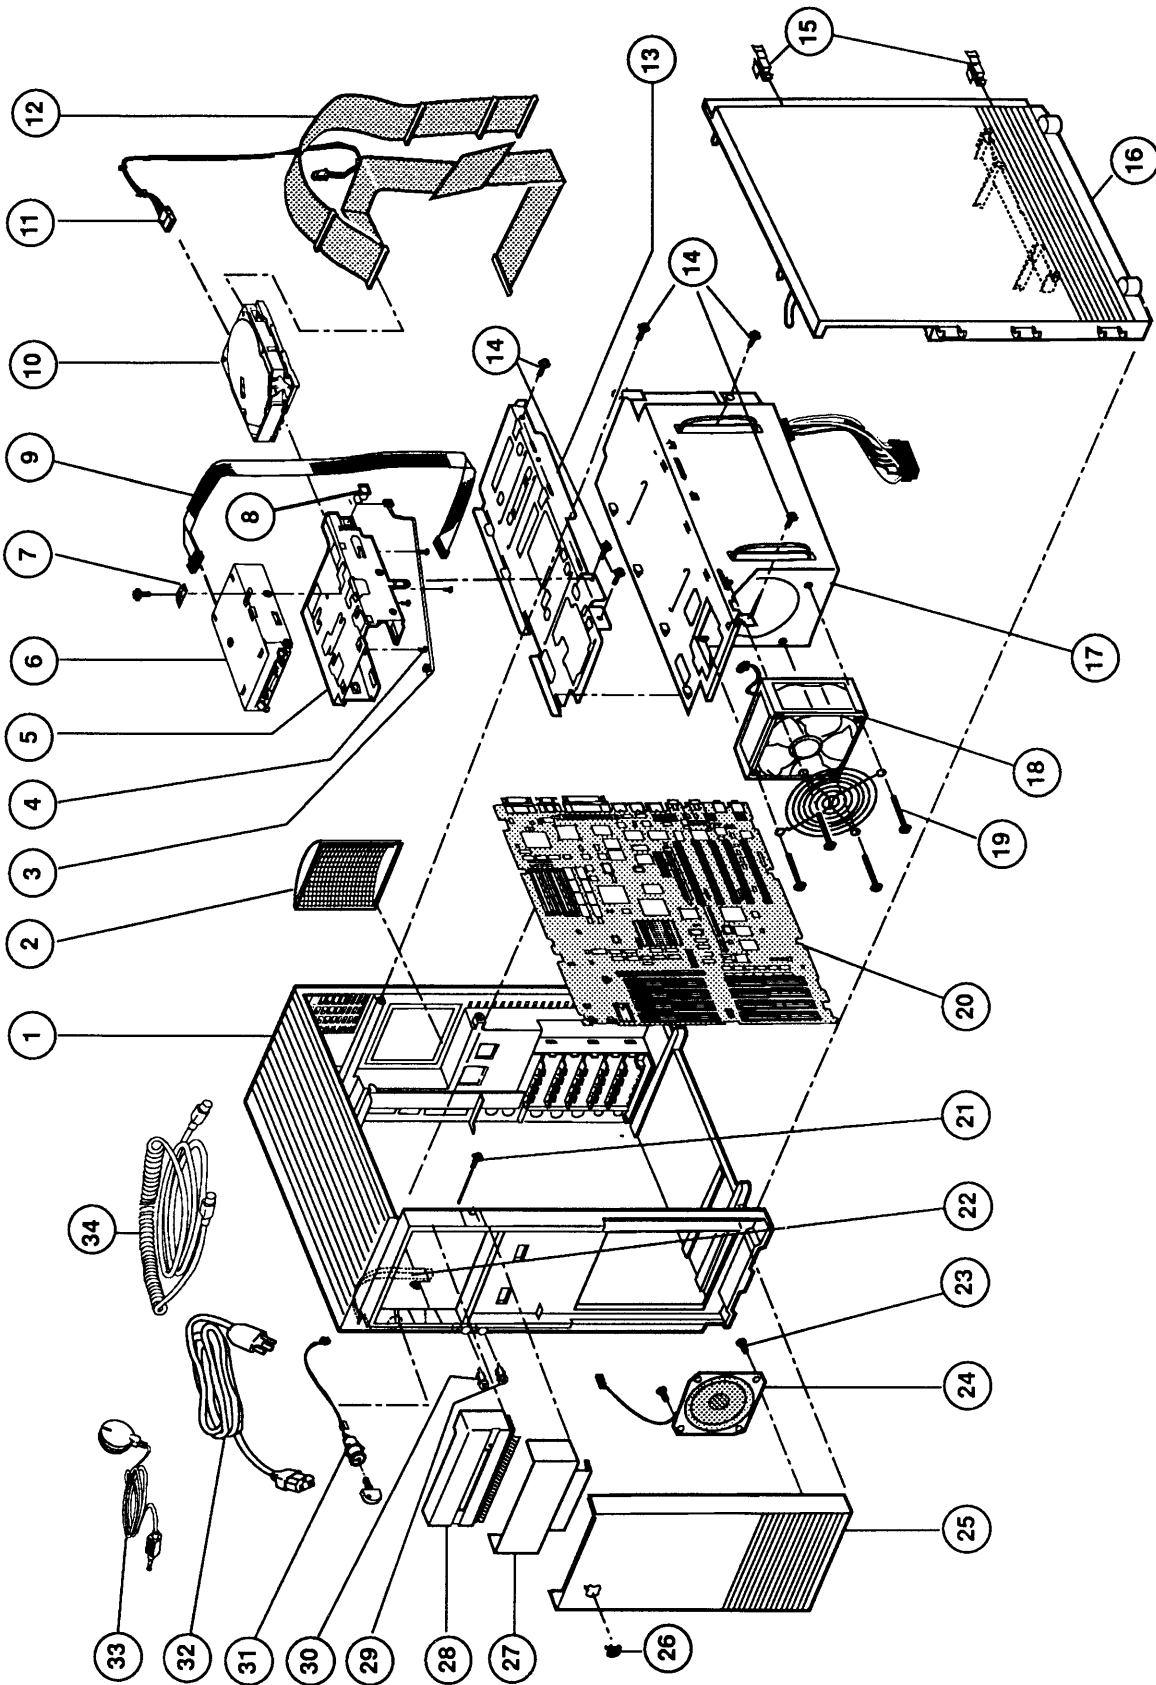

Figure 1 System Exploded View
- IPL.3 System Exploded View (Figure 1)
□ SYSTEM EXPLODED VIEW (Figure 1)